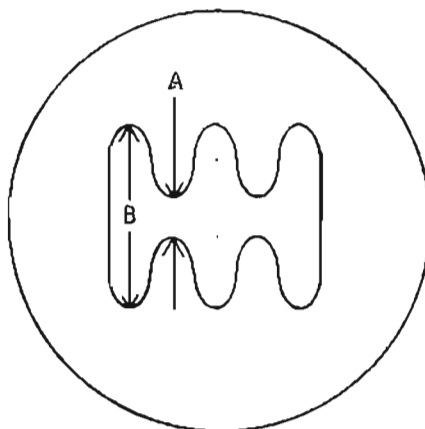

Figure 7-3
- b) Obtain a pattern on the oscilloscope similar to that shown in Figure 7-3.
NOTE: The ratio between peaks and valleys (B and A on Figure 7-3) is related to the modulation percentage by the following equation: